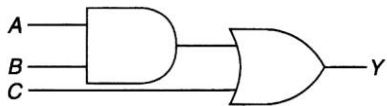

Figure 4-6 Logic circuit for question 15.
15. The Boolean expression for the logic circuit drawn in Figure 4-6 is